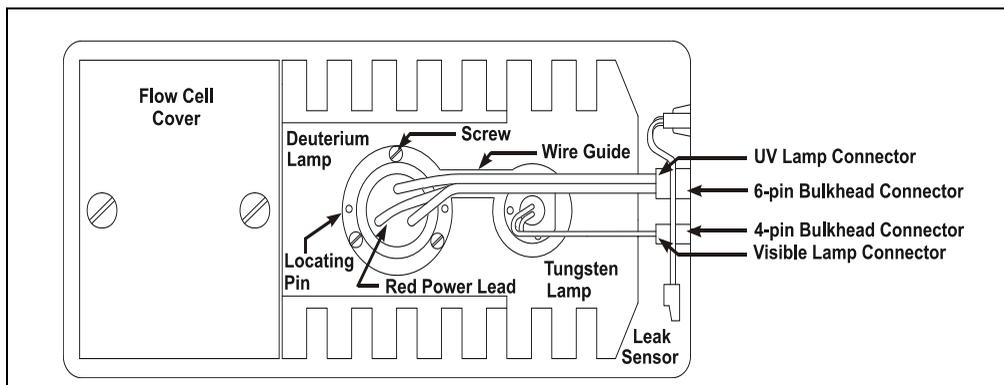

Figure 5-3. Lamp Connections
9. Squeeze the clip on the UV lamp connector and disconnect it from the 6-pin bulkhead connector on the side wall (see Figure 5-3).
10. Loosen the three screws in the deuterium lamp flange (see Figure 5-3) and pull the lamp out of the optical bench.
12. Line up the flange of the new lamp with the two locating pins and three threaded holes in the optical bench (see Figure 5-3). When the flange is aligned, gently push the lamp into the optical bench.
14. Squeeze the clip on the UV lamp connector and insert it into the 6-pin bulkhead connector on the side wall. Route the wires through the wire guide in the optical bench (see Figure 5-3).
9. Squeeze the clip on the visible lamp connector and disconnect it from the 4-pin bulkhead connector on the side wall (see Figure 5-3).
- Squeeze the clip on the Vis lamp connector and insert it into the 4-pin bulkhead connector on the side wall. Route the wires through the wire guide in the optical bench (see Figure 5-3).